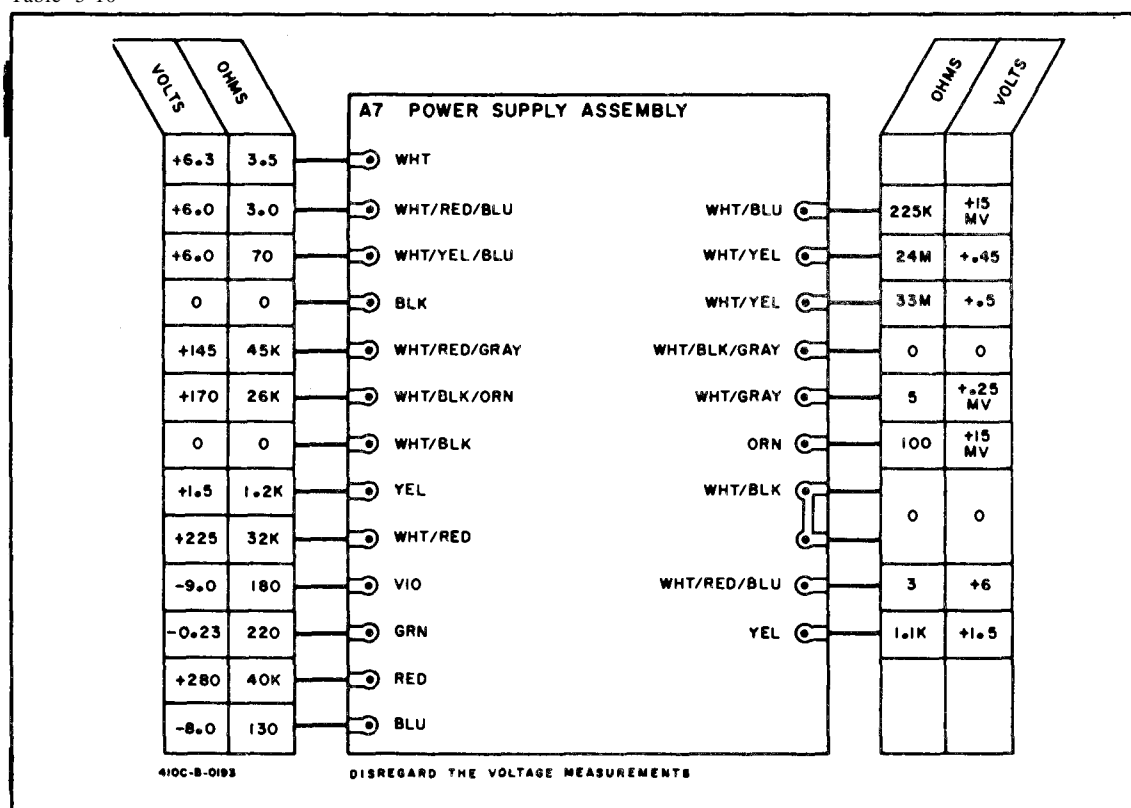
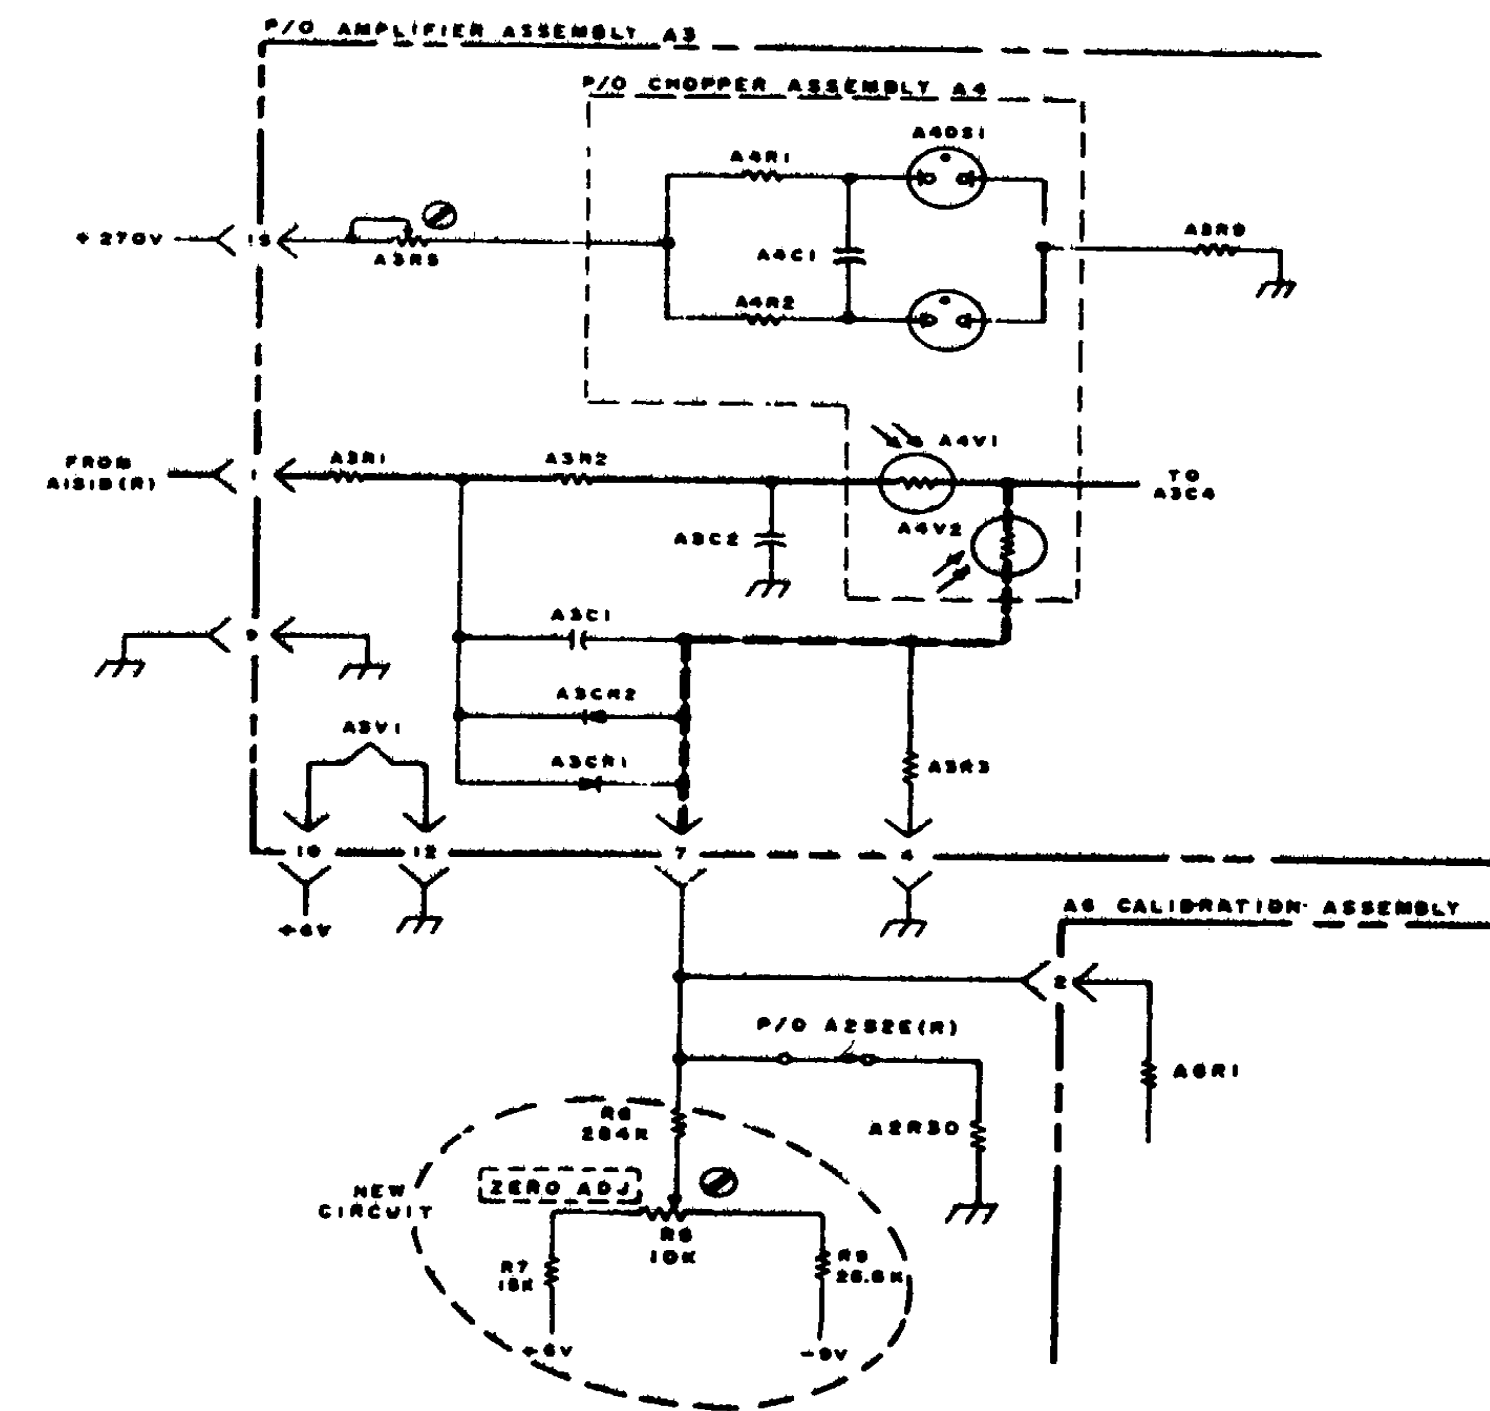

Figure 5-7. Power Supply Measurements
Figure 5-10. Amplifier Schematic
- ① Check power supply voltage values using the procedure outlined in Paragraph 5-29. If voltages are correct, proceed to ③. If voltages are incorrect, proceed to ②.
- ② If malfunction appears in the power supply, and adjustment of the chopper frequency to 100 cps does not reduce the error, refer to Figure 5-7 for further investigation. Check voltage and resistance values listed. When deviation is noted, trace circuit investigating for faulty component.
- ③ Measure the dc voltage at the DC AMPLIFIER OUTPUT on Model 410C rear panel. Under overdriven conditions specified, output should be approximately +4.0 v. If this measurement is correct, proceed to ④; if not, proceed to ⑤.
- ④ Trace circuit from Pin 11, A3 to Pin 2, A6. Use ohmmeter to check values of A6R21, A6R20, A6R17 and A6R1. Refer to Figure 5-10 for pertinent component and dc voltage values.
- ⑤ Measure the dc voltage at Pin 1, A3. This voltage is typically 13-15 mv. If this voltage is correct, proceed to ⑥; if not, proceed to ⑦.
- ⑥ Investigate switch circuit. Refer to asterisks in Table 5-9 for hints on how to troubleshoot switch circuit.
- ⑧ Investigate the demodulator and cathode follower A1V3B. Refer to Figure 5-10 for typical voltage and parameter values. Refer to Table 5-9 for method to check for open demodulator.
- ⑨ Investigate the modulator and amplifier to include A1V1A, Q1 and Q2. Refer to Figure 5-10 for typical voltage and parameter values. Refer to Table 5-9 for method to check for open modulator.